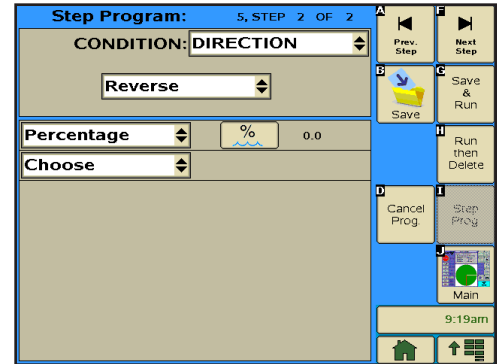

Figure 135-1
8. Program the direction condition. Refer to Figure 135-1.